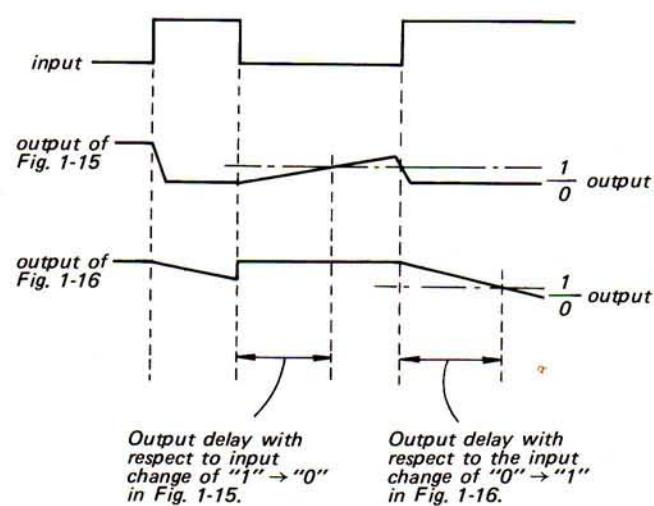

Fig. 1-17
A square wave input applied to these circuits results in a triangular wave output. However, because of the diode (D), the resistor R' will only be included in either the changing or the discharging path of the capacitor and hence the output will be a triangular wave only during the positive or the negative portion of the input wave, depending on the polarity of the diode. The waveforms of these circuits will be as shown in Fig. 1-17 if we assume $R \gg R'$.